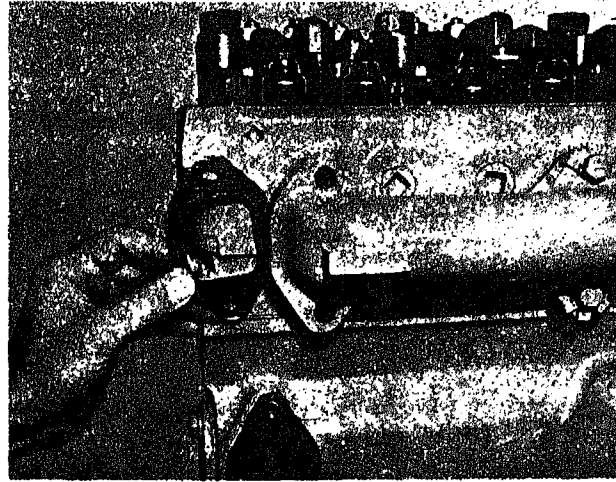

Fig. 14-1-62. Installing exhaust manifold gasket
3. Insert one gasket at a time, Fig. 14-1-62; install lockplates and capscrews into manifold mounting holes as gaskets are inserted.